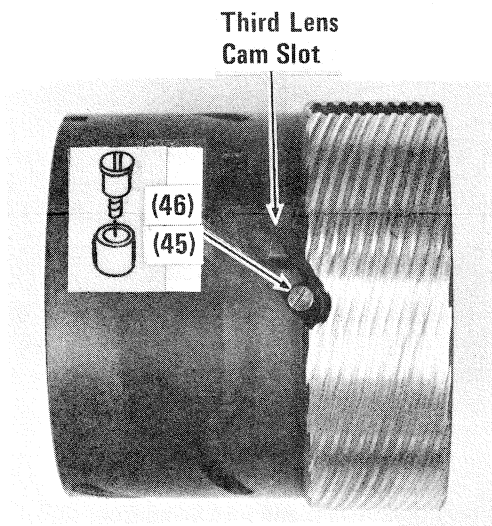

FIG. 4-15
- d) Align roller shaft hole of third lens housing (44) with third lens cam slot of inner helicoid; install roller shaft (46) and roller (45) on each side, sealing the threads with thread sealant. Fig. 4-15.